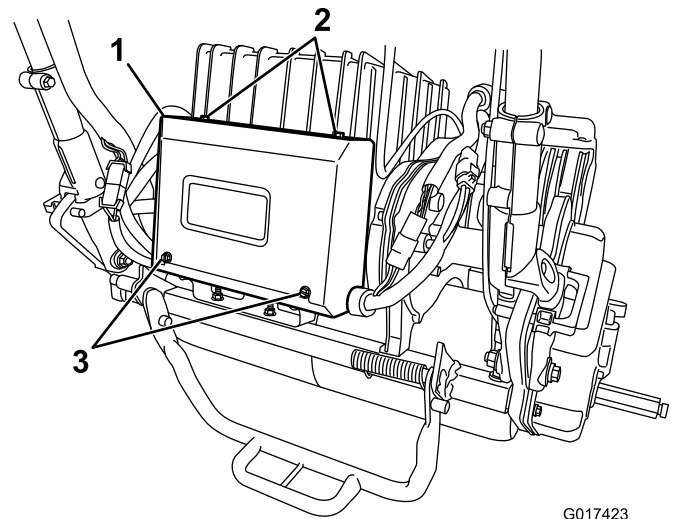

Figure 35
2. Remove the 2 rear screws from the electrical box and loosen the 2 upper screws then remove the box cover (Figure 35).